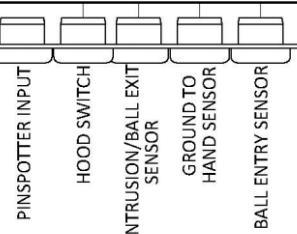

Figure 19, Control Box Wiring Diagram
4. Route the power supply cable to the “AC IN” location of the control box and secure with the appropriate strain relief for cable or conduit. See Figure 19.
7. Connect the incoming AC power conductors to **JP1** terminals L-IN (L1) and N-IN (L2). Refer to the table below and Figure 19.
8. Route the blower cable into the control box (see Figure 19).
11. Route the motor cable to the lift motor location on the controller enclosure. Pass the cable through the cable restraint, but do not tighten the cable restraint. See Figure 19.
13. Connect the conductors per wire color to terminal **JP3** as shown in Figure 19. Connection information is also shown on the exterior of the motor. Verify the connections are correct for the line voltage (115 or 230) used.
15. Connect the pinspotter's control wires to junction block **JP9** as shown in Figures 19 and 20.
17. Connect the conductors to **JP4** HOOD-SW terminals. The connection position does not depend on the color of the wire. See Figure 19.